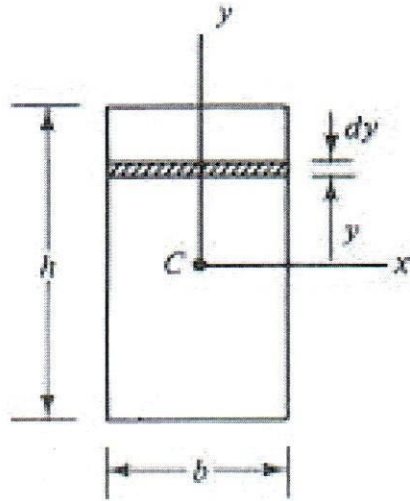

Fig. 4
- a. Determine the second moments of area of the rectangle shown in Fig. 4 about: